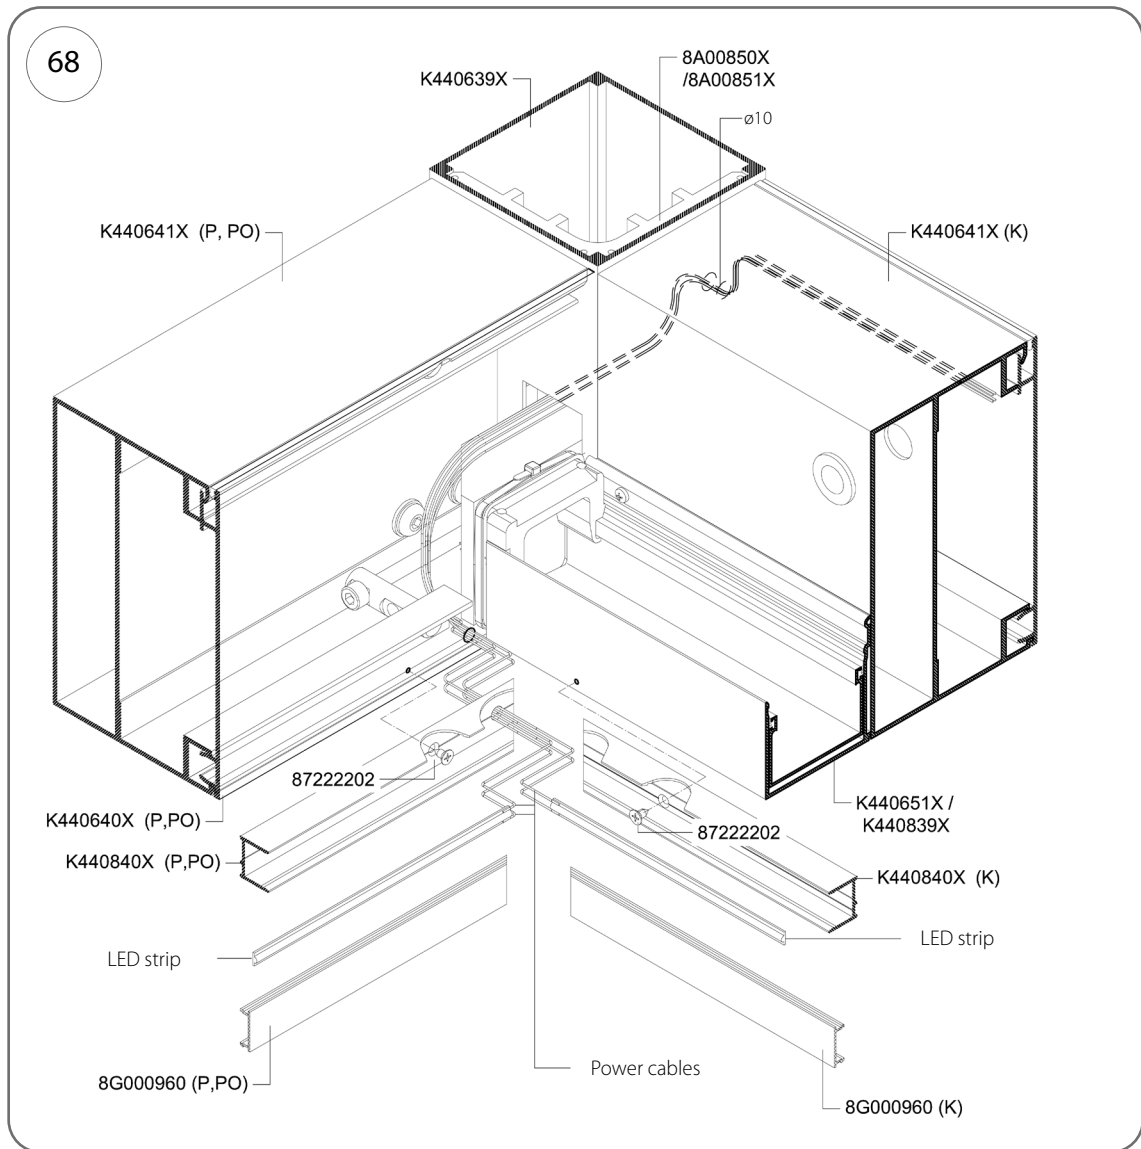

Fig. 68
3. Feed the ends of the LED strip cables through the 8 mm diameter hole into the purlin and through the post to the rafter (Fig. 68).